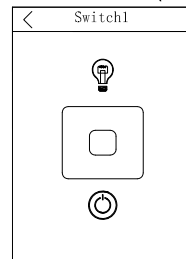

Fig. 2
- 1.) Control switches: Select switch ID to enter the switch control interface. Tap the on/off icon to have turn-on or turn-off operation (as shown in Fig. 2.).